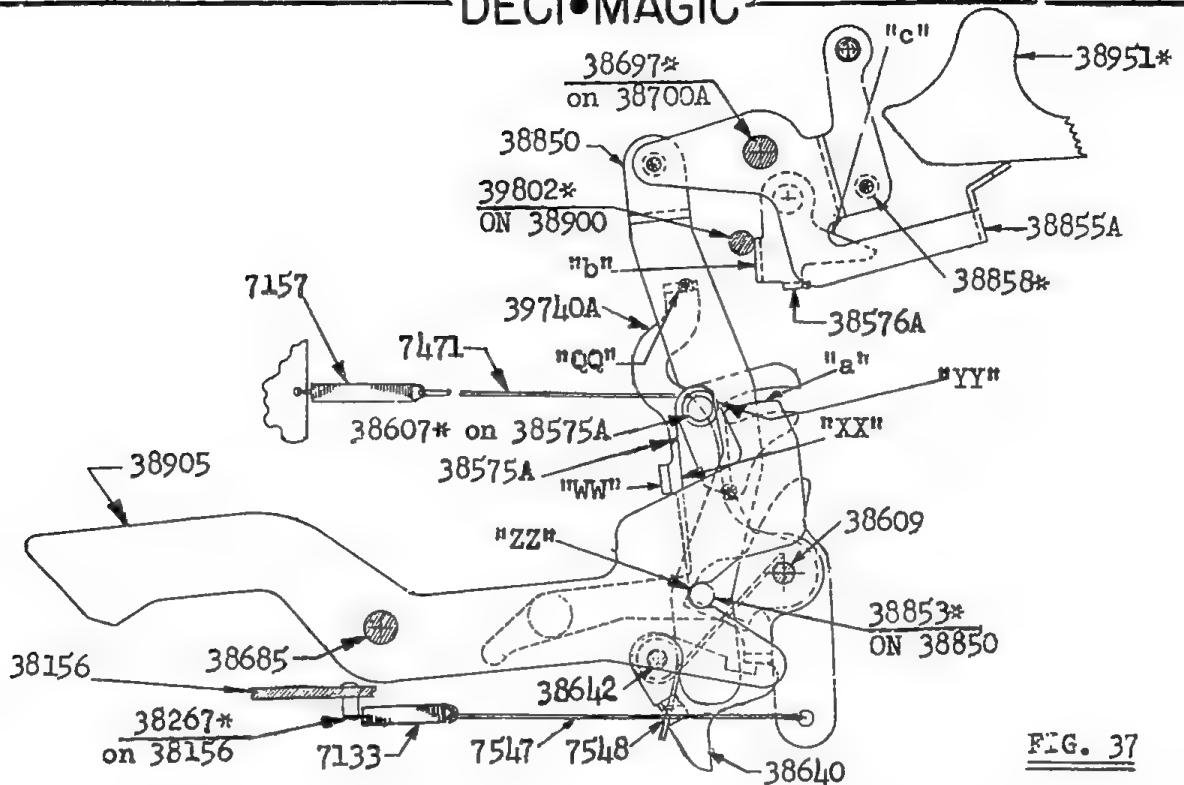

FIG. 37
39740A. 39740A now rocks clockwise under tension of its Spring-7133 and its nose "VV" contacts Stud-39709* on 38735A. This opens the Setting Clutch, (See Section III Para. A-1-Fig. 22 on Pages 1244 and 1245, for a "Blank Setting Cycle"). This delay insures that the Master Clutch Cycle is on its way before the Setting Clutch is opened.(Fig.37).
1. Fig. 37). In order to allow the carriage to shift into alignment with the leftmost multiplier digit, the shift mechanism must be disconnected from tab control and must be controlled by the ordinal Shift Control Members positioned by the Master Clutch Cycle. (See Para. B-1 thru B-5 on Pages 1258 thru 1261).
2. (Fig. 37). The Multiplier Starting Bail-39740A, (See Para. B-4 on Pages 1259, 1260 & 1261), has an ear "WW" which rocks the Multiplier Positioning Lever-38575A clockwise by contacting surface "XX" when 39740A is released. Stud-38607* on 38575A contacts surface "YY" on the vertical Shift Direction Link-38850 which now pivots about its upper pivot point. This moves its Stud-38853* out of the notch "ZZ" on the Tab Control Lever-38905, thus breaking the connection from the Tab Keys to the Shift Control mechanism. Stud-38607* is now in a position above surface "a" on 38905, holding 38905 in its Non-Shift position (clockwise) in order to reduce the load on the Tab Control Shaft Bail-38291, (shown on Fig. 76 on Page 1301), when it changes positions in a multiplication shift across the decimal order, during Equals Key operation. The Positioning Lever-38575A is latched by the Positioning Lever Latch-38640.
3. (Fig. 37). When the latching ear "QQ" on 39740A moves rearward it contacts the ear "b" on the Non-Shift Interponent 38576A and rocks 38576A counter-clockwise. Surface "c" on 38576A contacts Stud-38858* on the Shift Selection Link-38855A which in turn holds the Automatic Shift Lever-38951* on 38950, (at least temporarily), in its Non-Shift position.